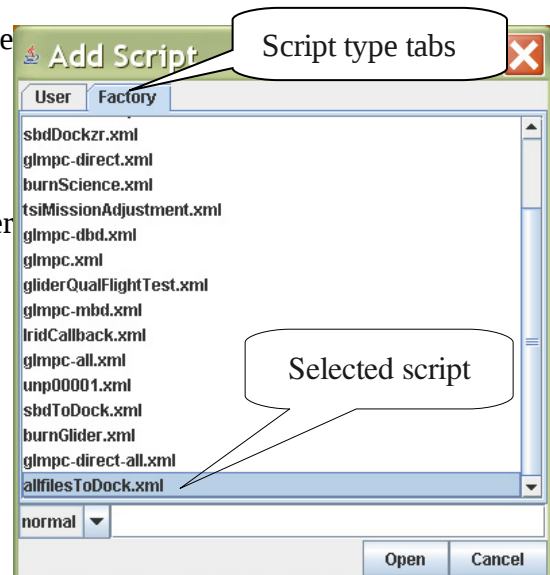

Figure 4-6. Add Script Dialog.
2. From the Add Script dialog (figure 4-6), click the tab corresponding to the type of script, User or Factory.
Figure 4-6 shows the factory script "allfilesToDock.xml" being added.